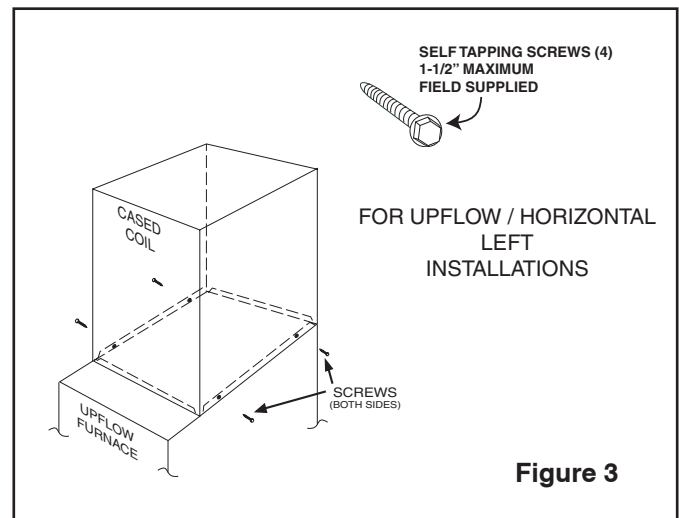

Figure 3
Secure alignment between the furnace and coil cabinet using field-provided self-tapping screws (see Figure 3). For S-series furnaces, bend furnace duct flanges outward for cased coil alignment. Drill screws into furnace duct flange through clearance alignment holes located near bottom of coil cabinet. The coil is always placed downstream of the furnace airflow.
h. Secure alignment between the furnace and coil cabinet using field-provided self-tapping screws (see Figure 3). For S-series furnaces, bend furnace duct flanges outward for cased coil alignment. Drill screws into furnace duct flange through clearance alignment holes located near bottom of coil cabinet. The coil and furnace must be fully supported when used in the horizontal position. These screws are strictly for securing alignment, not for support in horizontal. The coil is always placed downstream of the furnace airflow.